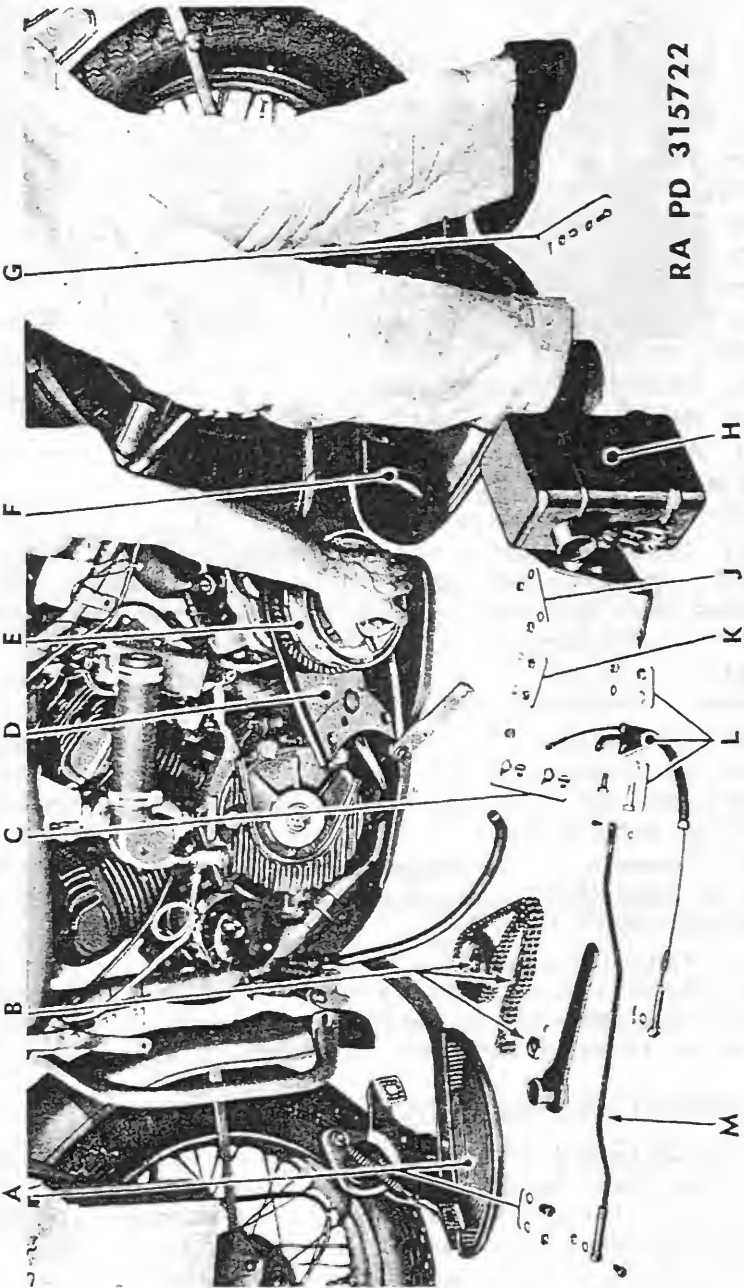

Figure 35—Disassembly for Transmission Removal from Left Side of Vehicle
- (5) Remove the two mounting screws and locks in engine case to free inner front chain guard.
- (6) Remove tool box from mounting bracket (par. 106). Remove bracket from frame.
- (7) Remove rear brake rod (par. 96).
- (8) Remove rear drive chain (par. 63).
- (9) Remove rear drive chain guard (par. 102). Remove rear chain oiler pipe after disconnecting at oil pump.
- (10) Remove battery box (par. 105).
- (11) Remove nut, washer, and bolt securing clutch tube assembly bracket to frame bracket on right side of vehicle. Disengage clutch operating cable end from end of clutch release lever and remove cable and tube assembly.
- (12) Remove gear shifter rod by disconnecting at hand shifter lever and at transmission gear shifter lever.
- (13) Remove the three transmission mounting stud nuts, then remove lock washers and large plain washers (located under frame bracket), and lift transmission sufficiently to permit removal of front chain adjusting screw.
- (14) Loosen upper U-bolts on ignition coil mounting, then remove the lower U-bolt nuts and shift coil on frame tube as far as possible toward the front.
- (15) Remove transmission and clutch assembly from vehicle by lifting complete unit sufficiently to free mounting studs from frame bracket; then rotate top of transmission backward about $\frac{1}{4}$ turn (fig. 34) and remove unit from left side of frame (fig. 35).
Legend for Figure 35—Disassembly for Transmission Removal from Left Side of Vehicle